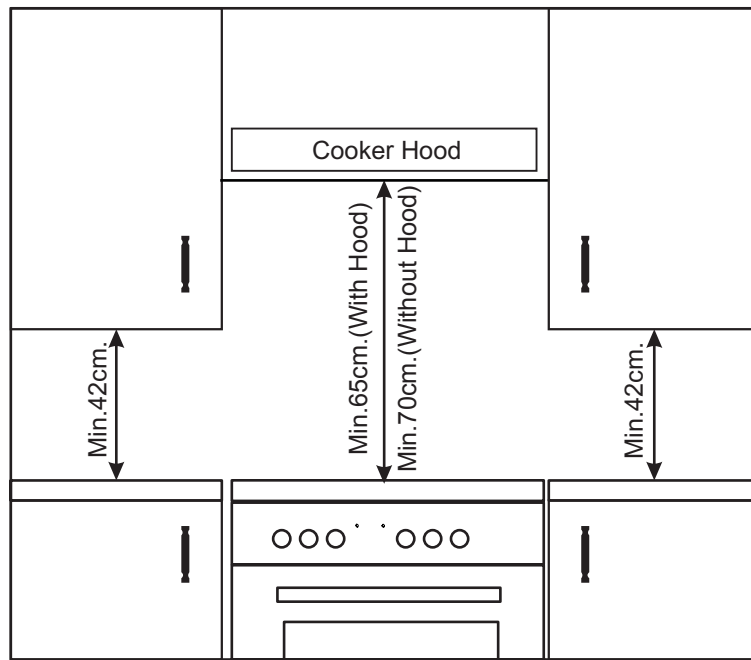

Figure 1
- d) Place the wall cabinets adjacent to the hood at a minimum height of 42cm from the hobs as indicated in figure 1.
- f) Should the cooker be installed beneath a wall cabinet, the latter should be situated at least 70cm away from the hobs as indicated in figure 1.
- g) The cut-out for the cooker cabinet should have the dimensions indicated in the figure 1.